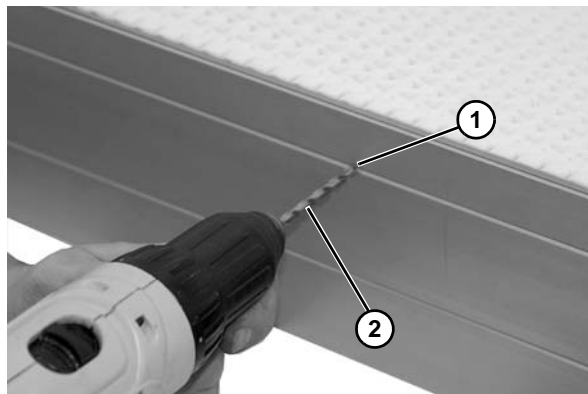

Figure 25
2. Drill the hole locations (**Figure 25, item 1**) with a 3/16" drill bit (**Figure 25, item 2**).